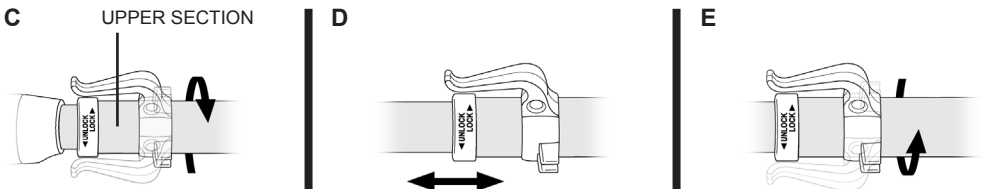

FIGURE 1
1. Insert threaded connector on bottom of Extension Pole into pole base on main unit (FIGURE 1-A).
2. Rotate Extension Pole in a clockwise direction as shown to screw it into pole base (FIGURE 1-B). Make sure Pole is tightly secured to main unit.
- A) Rotate upper (thicker) section of Extension Pole in “UNLOCK” direction indicated on label to unlock it (FIGURE 1-C).
- B) Adjust upper section to desired length (FIGURE 1-D).
- C) Rotate upper section of Extension Pole in “LOCK” direction indicated on label to lock it back in place (FIGURE 1-E).